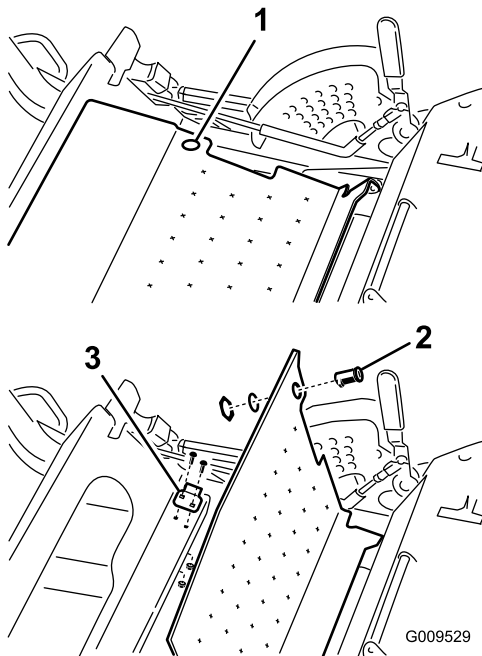

Figure 6
1. Raise the floor plate (Figure 6).
2. Install the floor-plate latch to the frame (Figure 6) using 2 carriage bolts (1/4 x 3/4 inch) and 2 locknuts (1/4 inch).